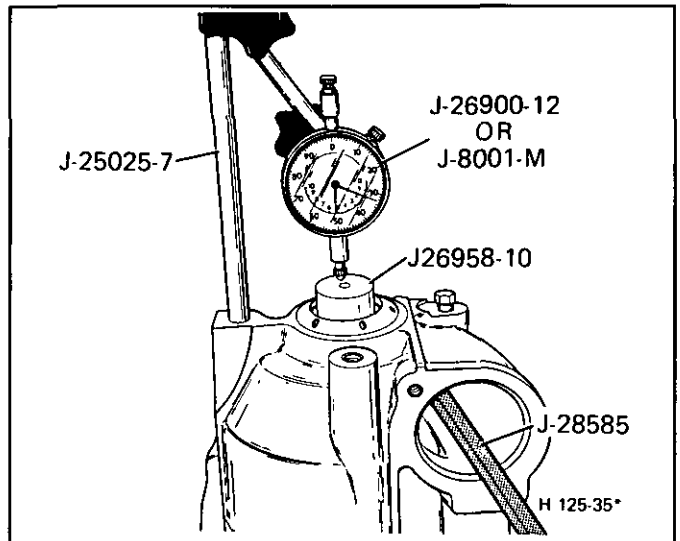

Figure 37 Final Drive End Play Selective Thrust Washer Measurement (680)
Measure (Figures 37, 38, 39 and 40)
3. Lift up on the governor drive gear (679) with J-28585. Reading on the dial indicator should be 0.12-0.82 mm (0.005"-0.032") - Record reading.
4. For correct washer selection see Figure 37. Remove the dial indicator set and the adapter.